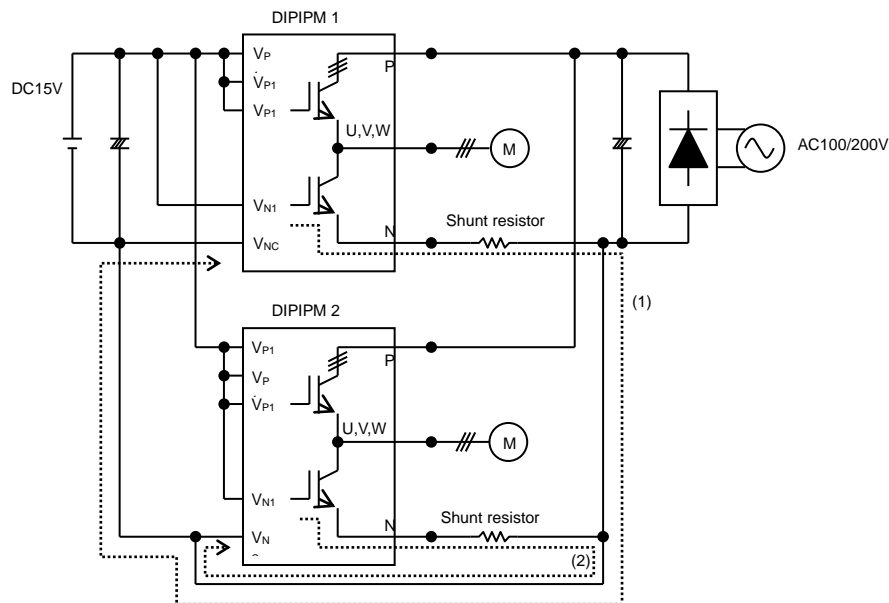

Fig.3-1-13 Parallel operation
Fig.3-1-13 shows the circuitry of parallel connection of two DIIPMs. Route (1) and (2) indicate the gate charging path of low-side IGBT in DIIPM No.1 & 2 respectively. In the case of DIIPM 1, the parasitic inductance becomes large by long wiring and it might have a negative effect on DIIPM's switching operation. (Chare operation of bootstrap capacitor for high-side might be affected too.) Also, such a wiring makes DIIPM be affected by noise easily, then it might lead to malfunction. If more DIIPMs are connected in parallel, GND pattern becomes longer and the influence to other circuit (protection circuit etc.) by the fluctuation of GND potential is conceivable, therefore parallel connection is not recommended.